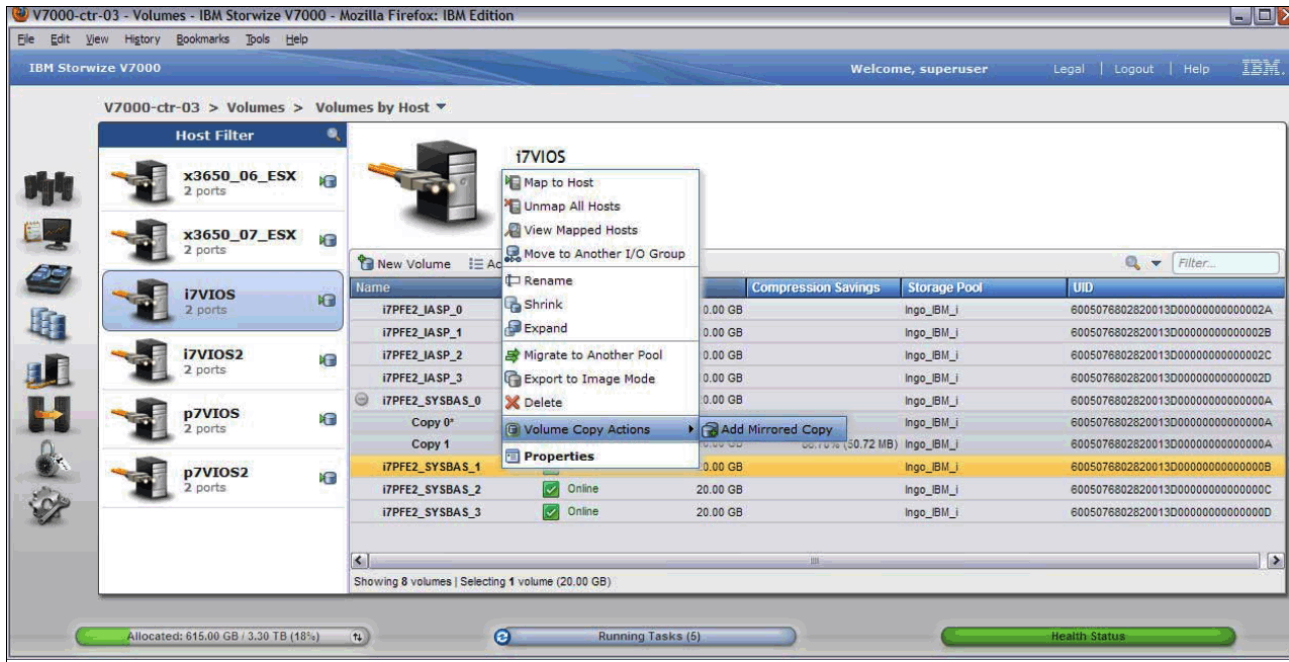

Figure 2-41 IBM Storwize V7000 adding a mirrored copy
1. From the V7000 GUI, right-click an existing non-compressed IBM i volume and select **Volume Copy Actions** → **Add Mirrored Copy** to create a VDisk mirrored copy on a compressed volume, as shown in Figure 2-41.